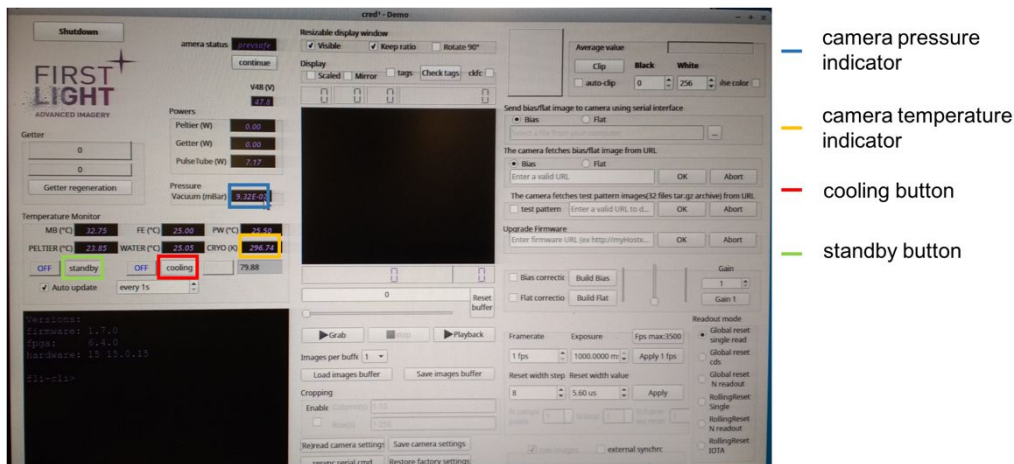

Fig 1: Screenshot of C-RED-ONE camera GUI highlighting locations of camera pressure and temperature indicators and cooling and standby buttons.
- c. Open an xterm window and enter command “credonImAcq”. The window in Fig.1 should pop up..
16. Ensure again that the camera pressure reads  $1 \times 10^{-5}$  mbar before hitting the "cooling" button on the camera GUI (see Fig.1) to start cooling. [You have to click the word "cooling" rather than the "on/off" label next to it]. The "camera status" will change to "isbeingcooled".